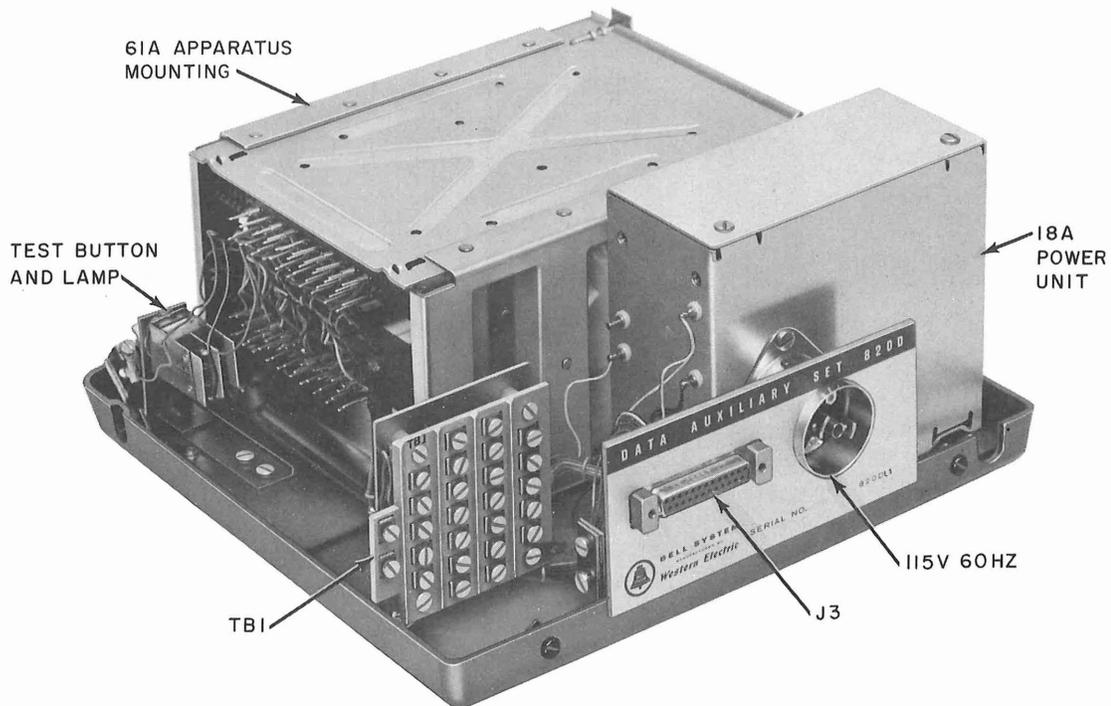

Fig. 2—Data Auxiliary Set 820D-L1A
2.03 DAS 820D-L1 and DAS 820D-L1A (Fig. 2) are identical to DAS 820D1 and DAS 820D2, respectively, with the following exceptions.